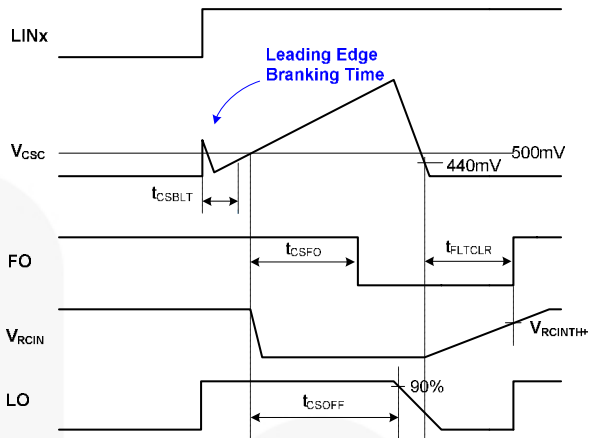

Figure 42. R_{CIN} and Fault-Clear Waveform Definition
Figure 42 shows the waveform definitions of RCIN, FO and the low-side driver, which uses a soft turn-off method when an under-voltage condition of the low-side gate driver supply voltage (V_{DD}) or the current-sense pin (CS) recognizes a fault. Once a fault condition occurs, the FO pin is internally pulled to COM and all outputs (HO1,2,3 and LO1,2,3) of the gate driver are turned off. Low-side outputs decline linearly by the internal sink current source ($I_{SOFT}=40mA$) for soft turn-off, as shown in Figure 42.